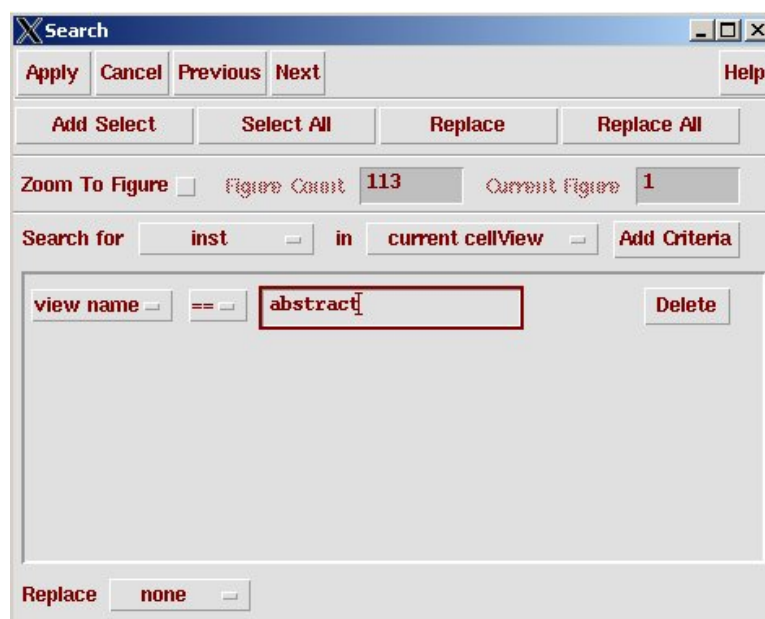

Figure 10.35: **Search** dialog box for finding all the cell abstracts
1. Select **Edit** → **Search** to bring up the **search** dialog box. You will use this search box to find all the cells in the design that are currently using the **abstract** view. Click on **Add Criteria**. In the new **criteria** change the leftmost selection to **View Name**, and change the name of the view to **abstract** (see Figure 10.35). Now clicking on **Apply** will find all the cells in the design whose **View Name** is equal to **abstract**. You should see every cell in the design highlighted. The dialog box will also update to tell you how many cells it found. In this example it found 113 cells.